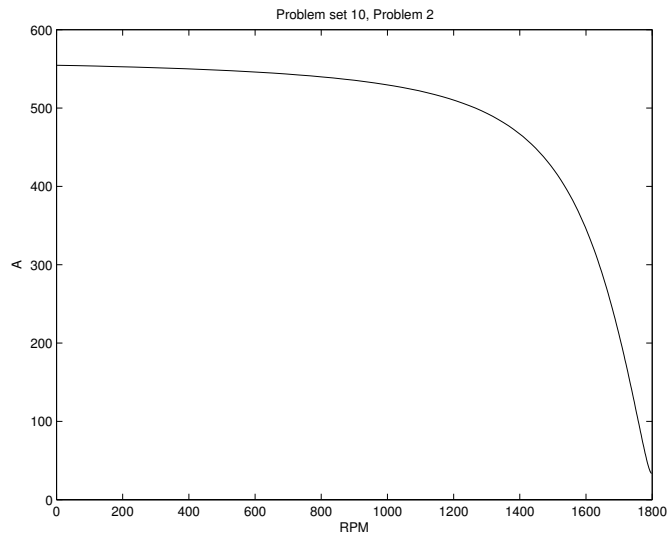

Figure 2: Current-Speed Curve
**Problem 2:** Terminal current comes essentially for free and is shown in Figure 2